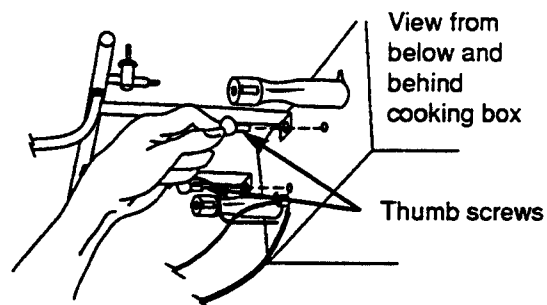

Figure 11
- Remove the manifold bracket and unscrew the two thumb screws that hold the manifold to the cooking box. Pull the manifold and valve assembly out of the burners and carefully set it down. Figure 11.